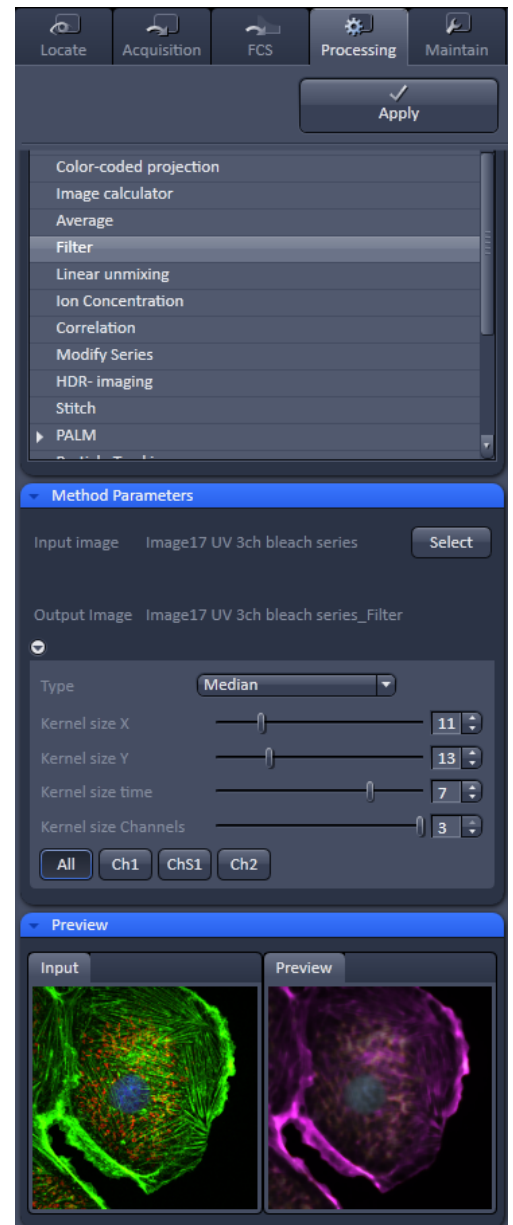

Fig. 265 Processing – Filter
- To open the **Filter** tool, select it from the list under the **Processing main tab** (Fig. 265).